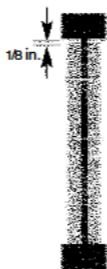

Figure 4-11 WEB STIFFENERS IN ENGINEERED WOOD JOISTS
- Total load values assume minimum bearing lengths without web stiffeners for joist depths of 16 in. and less (see Figure 4-11).